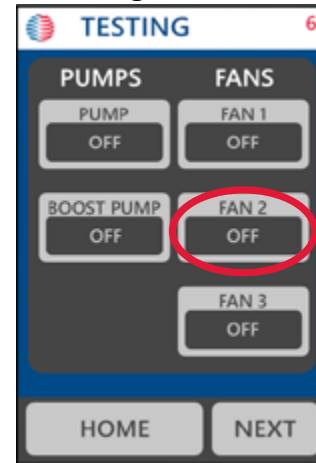

Figure 12
3. Under the “Fans” testing section, locate the fan 2 output (Figure 12).